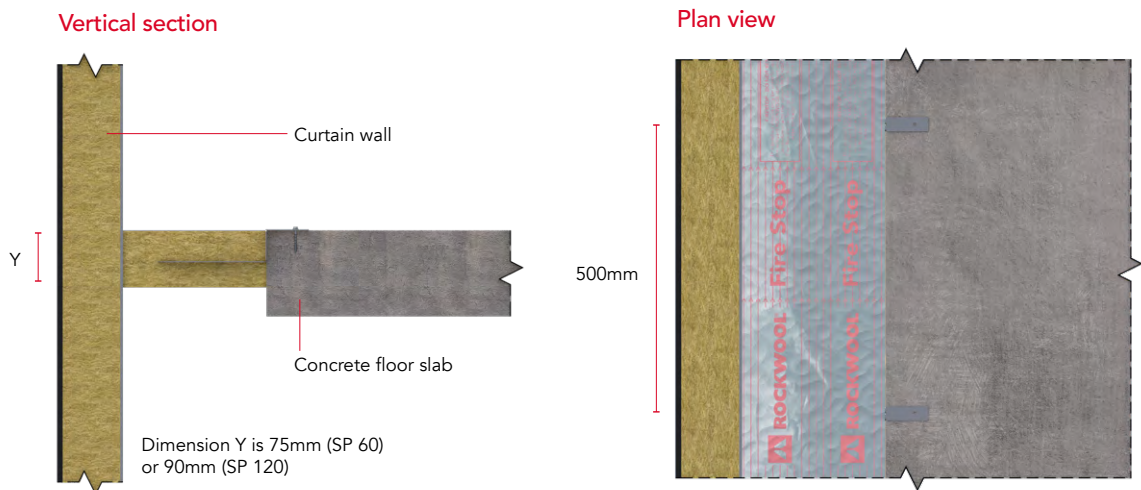

Figure 4
ROCKWOOL SP FireStop Slabs are designed for cutting on site with a sharp knife or saw and a straight edge. The cavity to be fire stopped should be measured and the ROCKWOOL SP FireStop Slab cut to suit this dimension, using one piece only per gap width - see Figures 4 and 5.
2. The ROCKWOOL SP60 or SP120 FireStop Slab is impaled onto the SP Fixing Brackets at the rate of 2 per 1000mm length, fixed at 500mm \pm 10mm centres as shown in Figure 4. The SP Fixing Brackets should be placed 250mm \pm 10mm in from each end of the ROCKWOOL SP FireStop Slab.